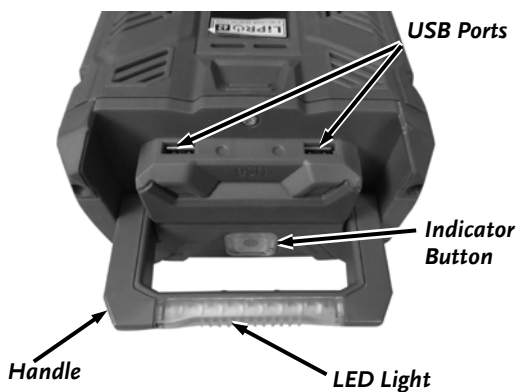

Figure 17
2. Flip the Handle to the open position (**Figure 17**).